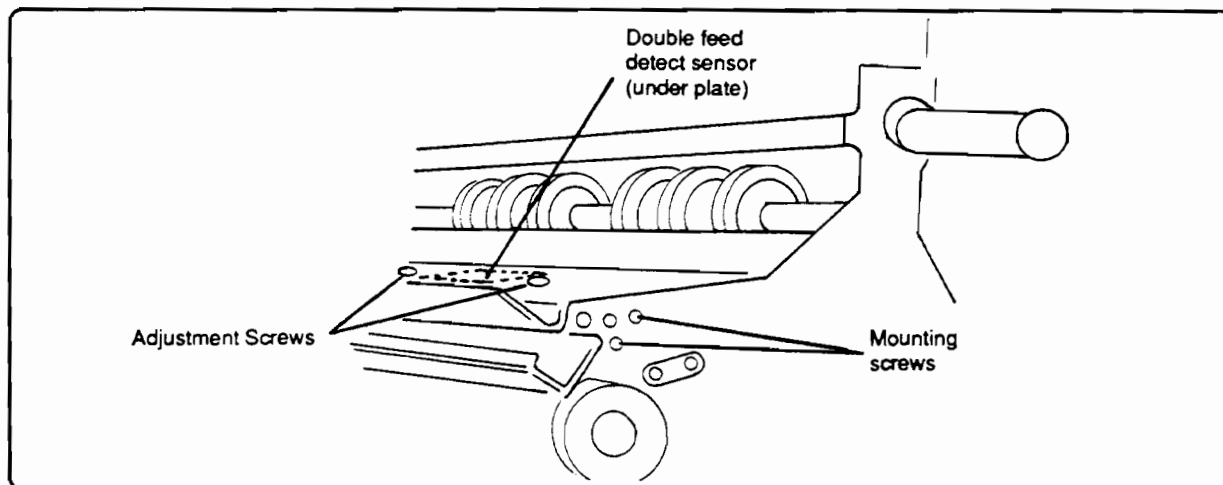

Figure 6-105. Double Feed Detect Sensor
6. Remove the front sensor holding screws (two screws - see Figure 6-105).